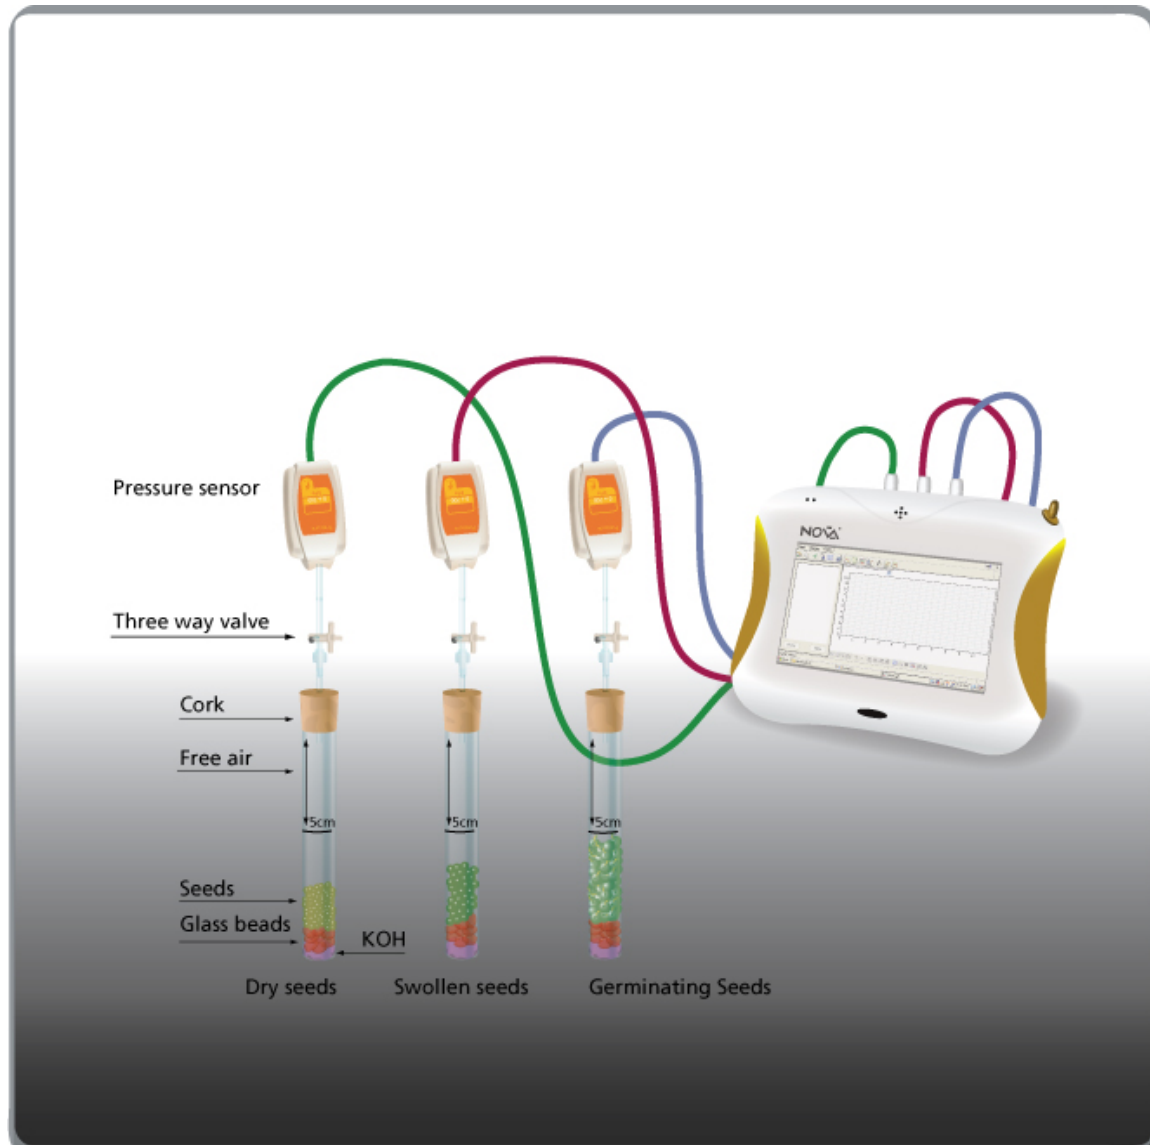
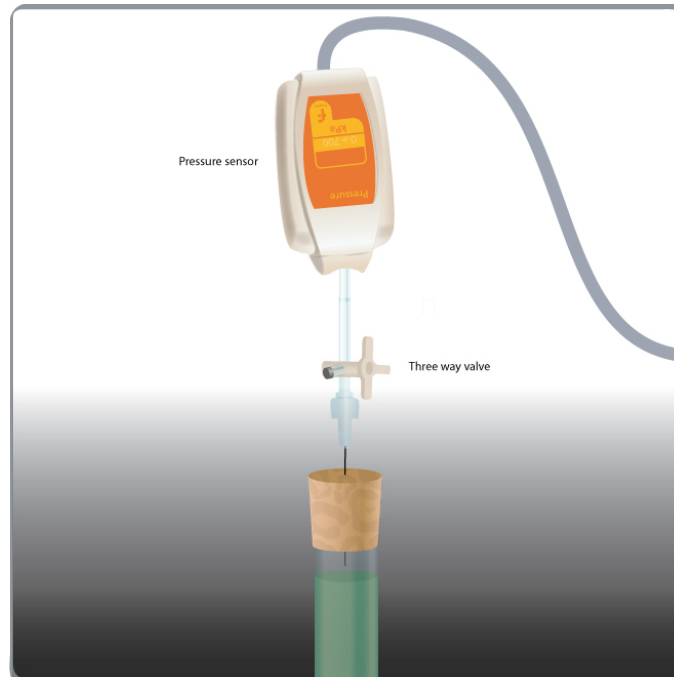

Figure 1
Figure 2
3. Assemble the equipment as illustrated in Figure 1 and Figure 2.
4. A syringe needle (no. 20) is inserted through the cork, until its tip projects slightly out of the cork (Figure 2).